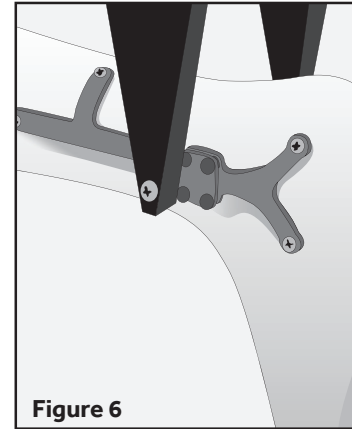

Figure 6
4. Affix hinges to positive model using nails or small wood screws. See Figure 6